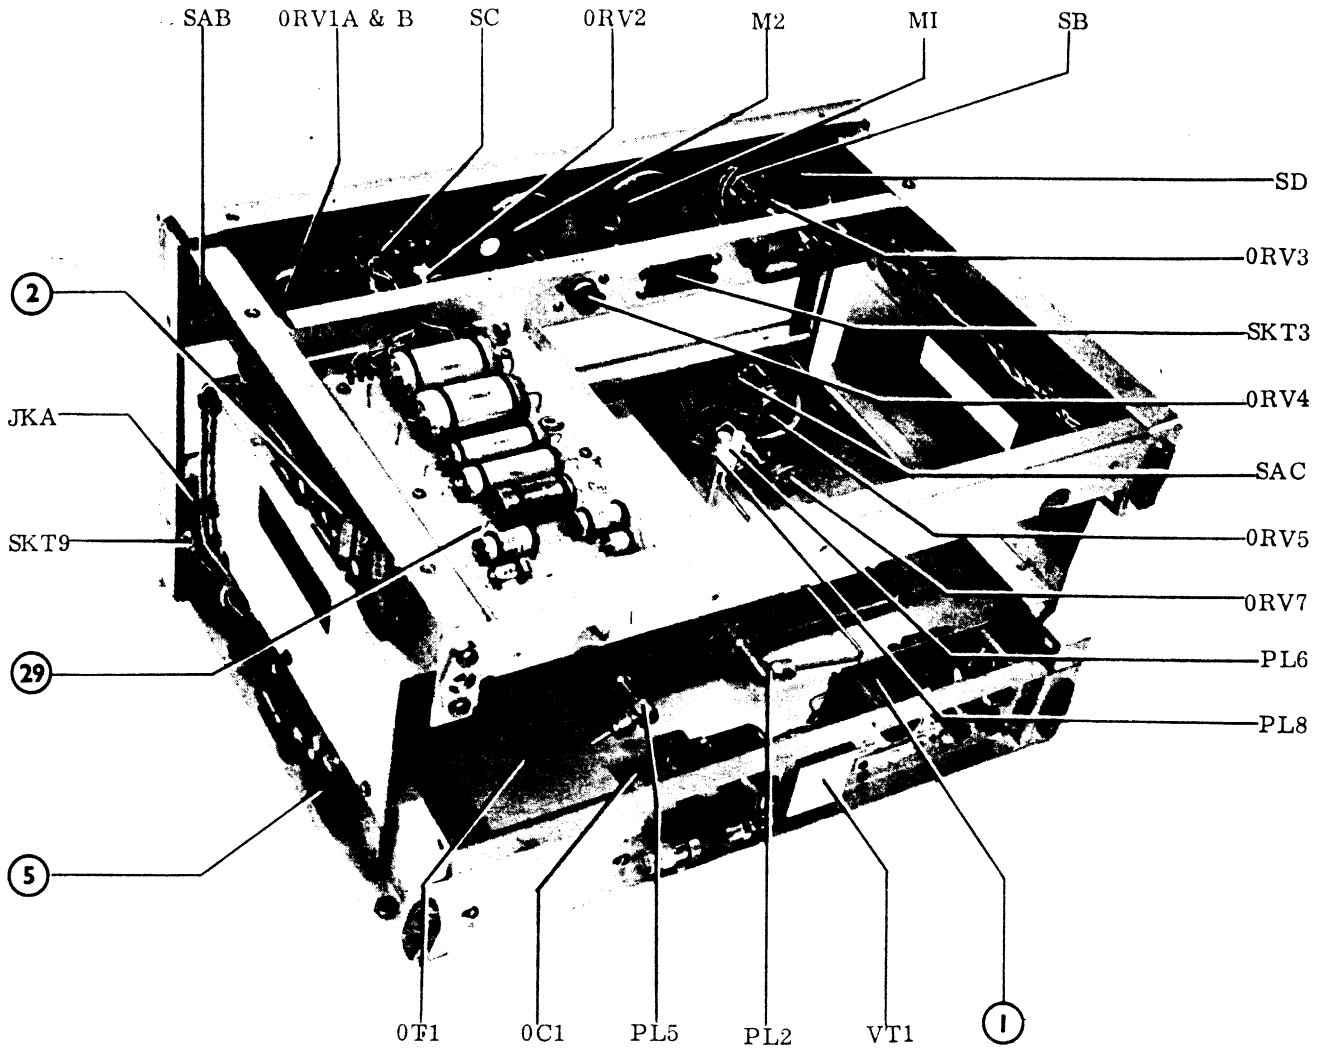
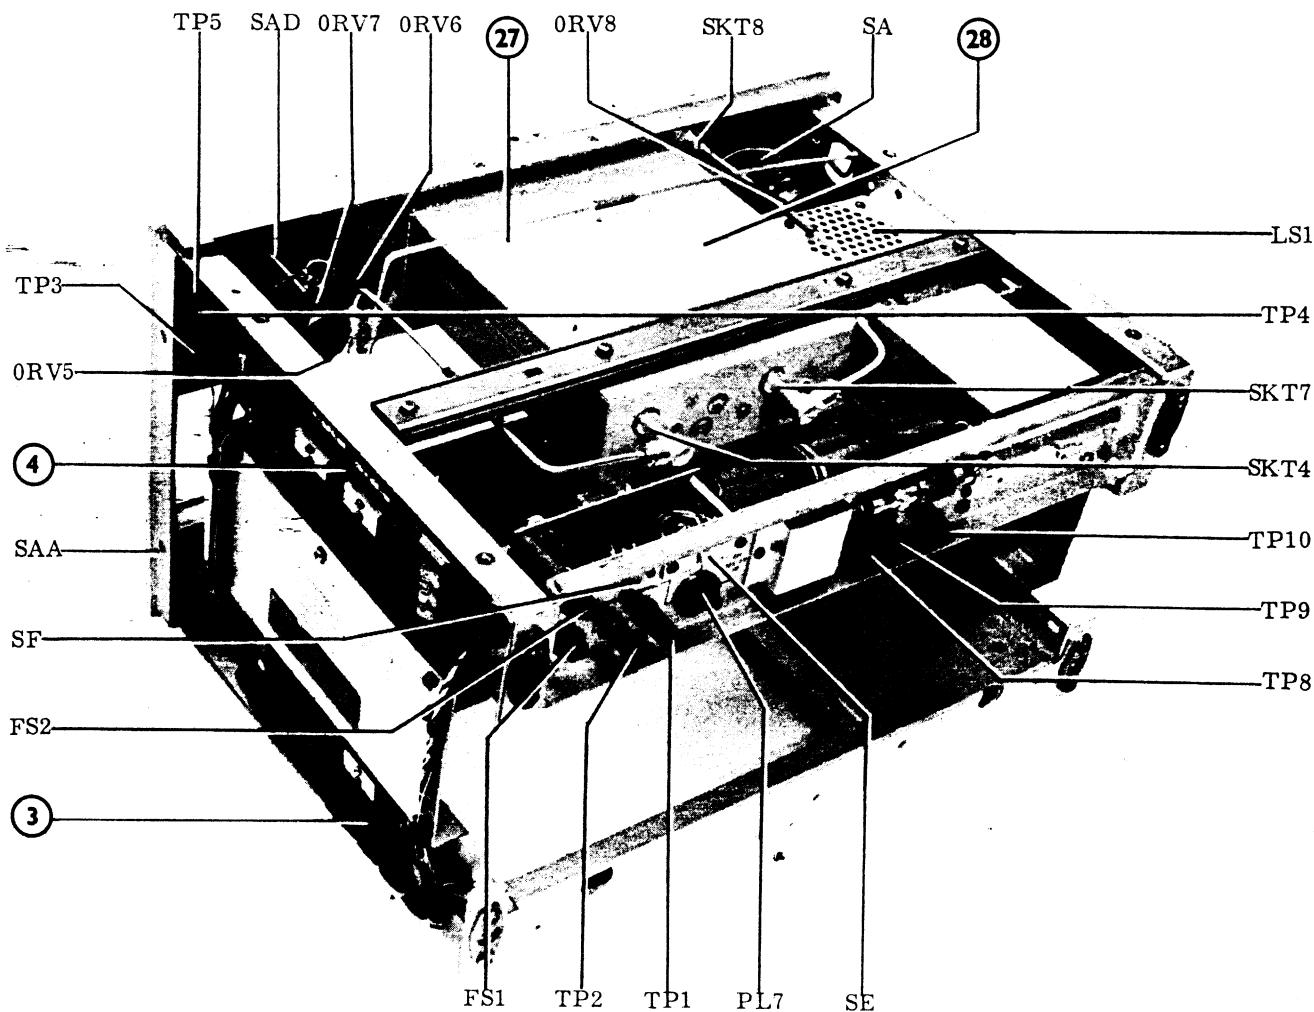

Fig. 4.1 Top view with r.f. unit removed
Fig. 4.2 Bottom view with r.f. unit removed
To remove the outer case of the instrument extract the four coin-slotted 2BA screws at the rear and slide the instrument forward out of the case. With the case off, the following boards are accessible, ①, ②, ③, ④, ⑤, ⑲; for the location of these boards and other components see Fig. 4.1 and Fig. 4.2.